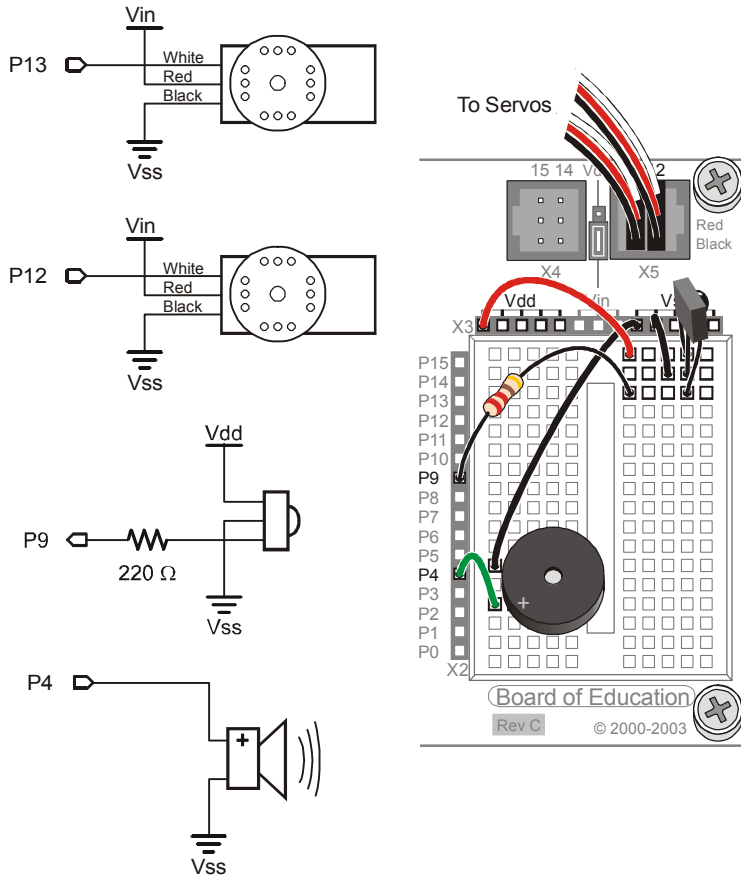

Figure 1-15
- (1) Piezospeaker
- √ Build/rebuild and test the Boe-Bot servo, IR detector, and piezospeaker circuits shown in Figure 1-15 as needed.